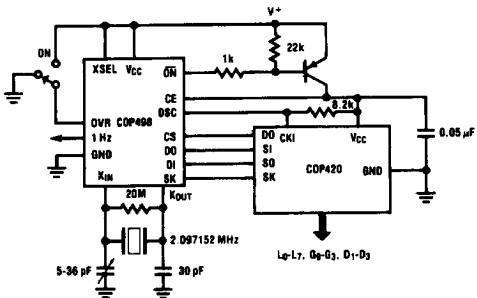

FIGURE 6a. COP498-COP420 Interface
*Figure 6a* illustrates the COP498 interface in a system with supply voltage less than 6 volts. The COPS controller can either be turned on by the timer or an external signal. A PNP transistor, controlled by the  $\overline{ON}$  signal of the COP498, is used to gate the power to the COPS controller. A 0.05  $\mu$ F capacitor is connected across the supply pins of the controller to reduce voltage variations due to current spikes. It is not recommended to use large capacitance values here as problems can be introduced if the power supply fall time is too long. The switched supply fall time should be kept to about ten instruction cycles of the COPS processor. Resistor R2, between the  $\overline{ON}$  pin of the COP498 and the base of the transistor, is used to limit current. Resistor R1, between the base and emitter of the transistor, is used to turn the transistor off when  $\overline{ON}$  is high. The CE pin of the COP498 is tied to the  $V_{CC}$  pin of the controller. This guarantees that the controller is at its full operating voltage before the COP498 can be accessed. When turned on, the PNP transistor should be saturated in order to minimize the voltage drop across it. The system power supply, which here is  $V_{CC}$  to the COP498, must be high enough to insure that the controller  $V_{CC}$  — which is the system supply less the voltage drop across the PNP transistor — is high enough to be recognized as a logic "1" at the CE input of the COP498. It is also desirable to have all input signals to the COP498 as close as possible to the COP498 supply levels to eliminate any static power drain which could significantly increase standby and operating current.